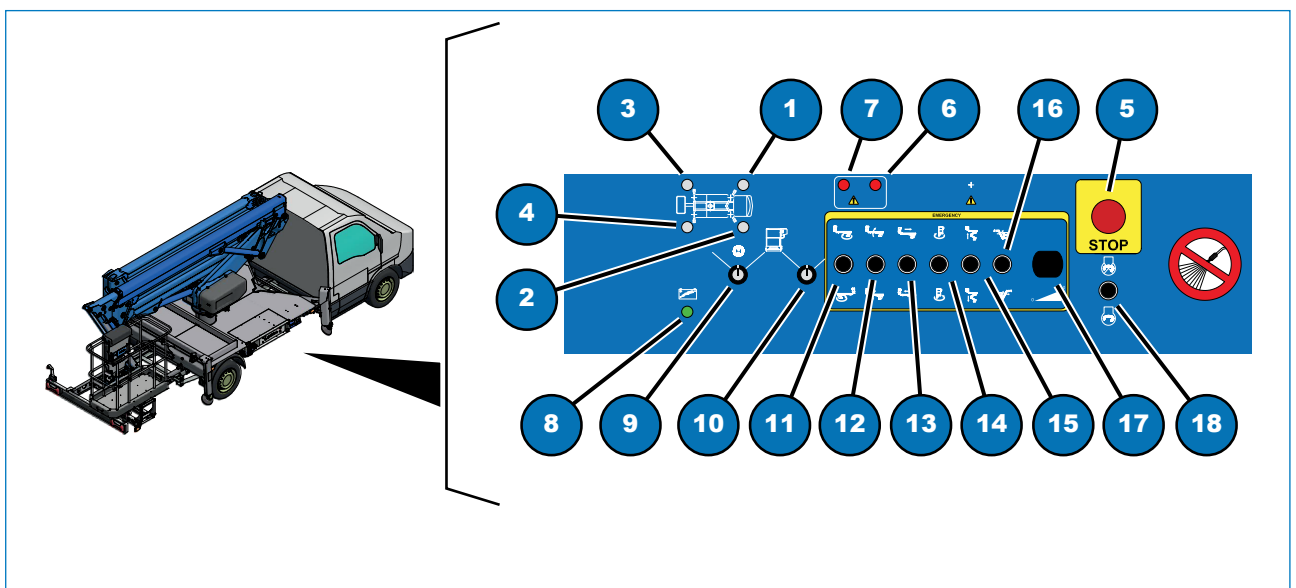

Fig. 6.2
- Place the key in the selector switch (Fig. 6.2, 9)
- Turn the selector switch (Fig. 6.2, 9) into the “Stabiliser controls” position;
- The light (Fig. 6.2, 8) will turn on;
- Make sure that all the stabiliser indicator lights (Fig. 6.2, 1, 2, 3 & 4) on the stabilisers are off;
If one or more indicator lights are on (Fig. 6.2, 1, 2, 3 and 4) and flashing quickly, it means that there is a fault with the stabiliser limit switches.
- turn the selector switch key (Fig. 6.2, 9) into the “Work Platform” position.
- Insert the key in the selector switch on the ground control panel and rotate it to the “stabilisers” position (Fig. 6.2, 9);
- check that the stabiliser indicator lights turn off (Fig. 6.2, 1, 2, 3 & 4);
- rotate the key to the “neutral” position and remove it from the selector switch (Fig. 6.2, 9).